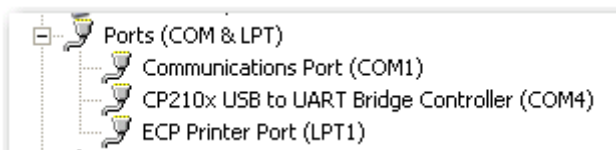

**Figure 2-4 • Connecting the USB and 9 V Power Supplies on the M1AFS-ADV-DEV-KIT Board**
1. Connect one end of the USB mini cable to USB port J2 on the M1AFS-ADV-DEV-KIT board (labeled USB2 in Figure 2-4) and connect the other end to the USB port on your PC.
2. Connect one end of a 9 V power supply to power input J3 on the M1AFS-ADV-DEV-KIT board (Figure 2-4) and plug the supply into an electrical outlet.